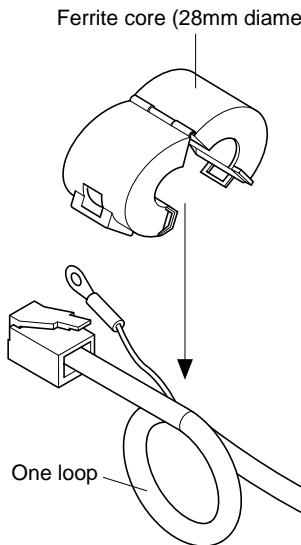

Fig. 3-1
- The ferrite core is normally packed so it is opened, as shown in Fig. 3-1.
■ Clamp the ferrite core onto the peripheral unit cable, looping the cable as shown in Fig. 3-1.